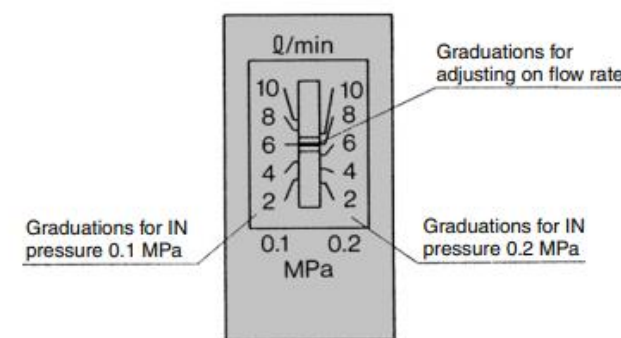

Fig. 1 Window name plate example: IFW 510
5. The indicator on the window name plate (Fig. 1) is only a guideline. For precise setting, mount a flow meter on the downstream side of the flow switch and set the level.